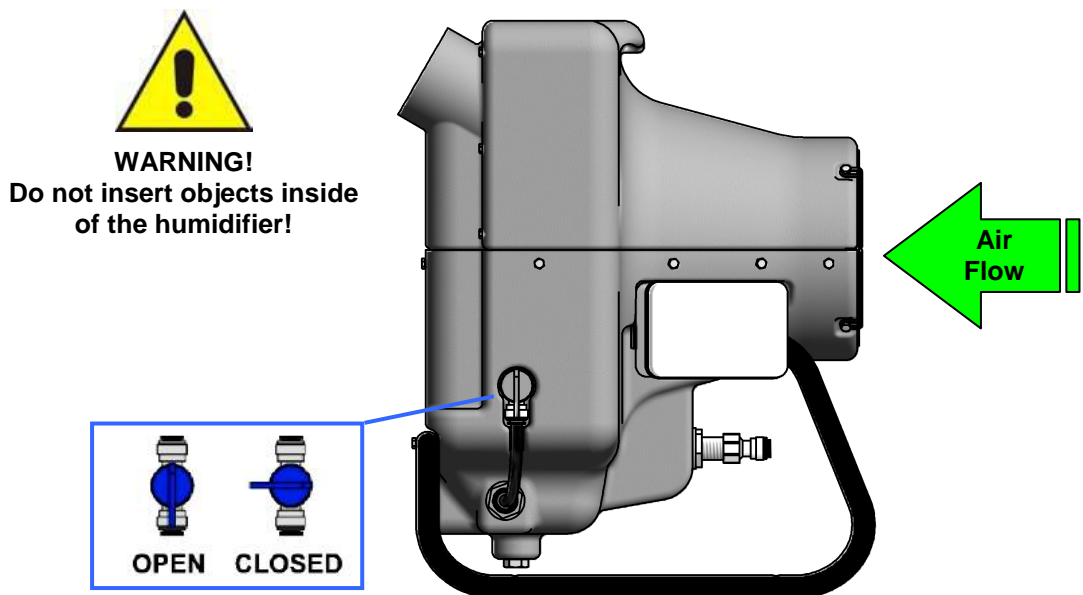

Fig. 3.1
- Check the correct air flow direction (Fig. 3.1);
It is possible to vary the amount of atomized water by adjusting the valve that regulates the spinning disk's water supply (Fig. 3.1).